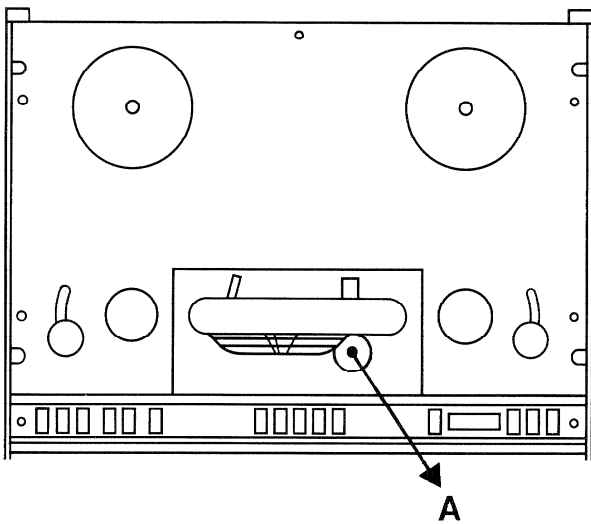

Fig. 3.3.-1
- Loosen the pinch roller solenoid and move it to the left so that an air gap from about 0.5 to 1.0 mm exists (0.02 ... 0.04") between the shaft and the clevis (fig. 3.3.-2).